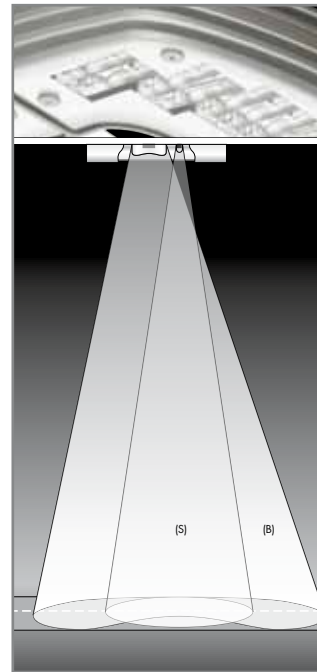

Fig. 1
Multiple rows of LEDs, using a mixture of secondary symmetrical (S) and batwing lenses (B) (fig.1) for direct and longitudinal light distribution respectively, are positioned within angled reflectors that boost transverse light distribution. The resulting layering effect also maintains the light distribution in the event of dimming or a premature LED failure and gives excellent glare control. As the LEDs produce directional light, they only light the areas that need to be lit, maximising luminaire efficiency and thus spacings between lanterns.